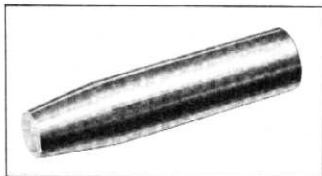

Fig. 16—Countershaft Assembly Tool
2. Feed the assembly tool J-1617 (fig 16) in from the front, tapered end first, picking up the forward thrustwasher and the countergear.